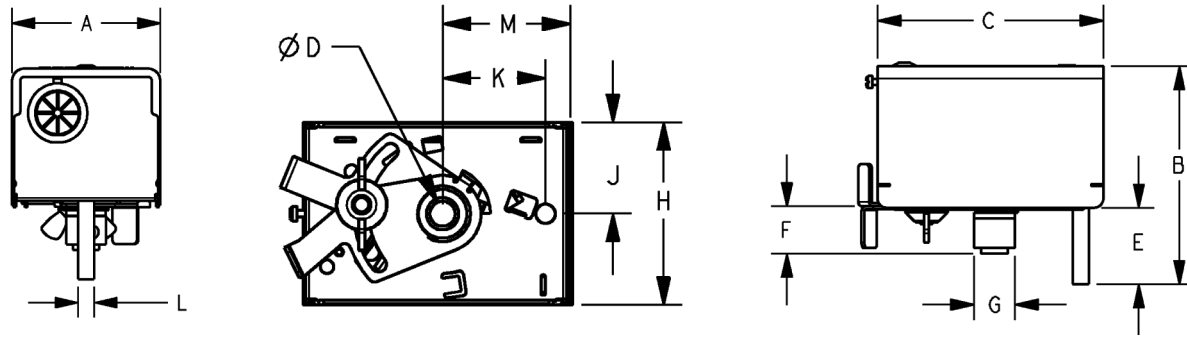

Fig. 1. Dimensional Details.
**Dimensions:** See Figure 1.
The M847D can be attached directly to the protruding 5/16" diameter damper shaft using the sleeve of the output shaft. Drill a 5/16" (8 mm) hole 1-5/16" (33.5 mm) directly below the damper shaft opening to accept the anti-rotation shaft protruding from the base of the motor. The length of the damper shaft to which the connection coupling is attached is such as to firmly hold the actuator in a position to adequately engage the anti-rotation pin in the warm air duct. See Figure 1 for the critical dimensions.